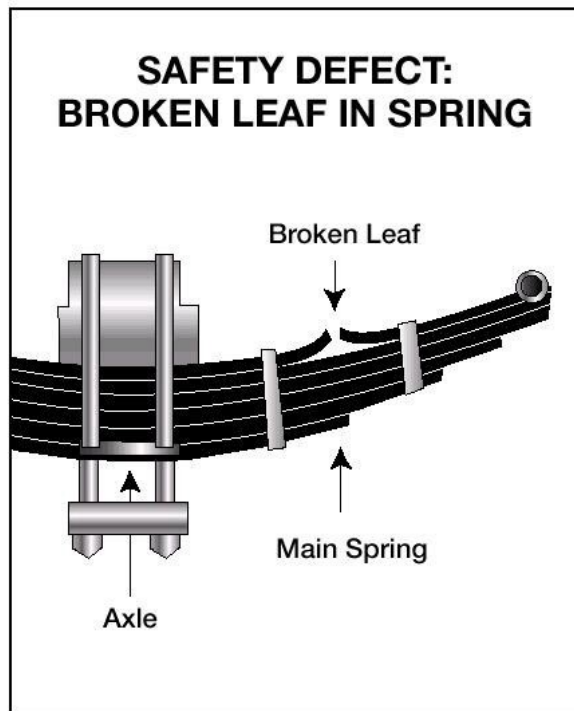

Figure 2.3
- ☐ Missing or broken leaves in any leaf spring. If one-fourth or more are missing, it will put the vehicle "out of service", but any defect could be dangerous. **See Figure 2.3.**